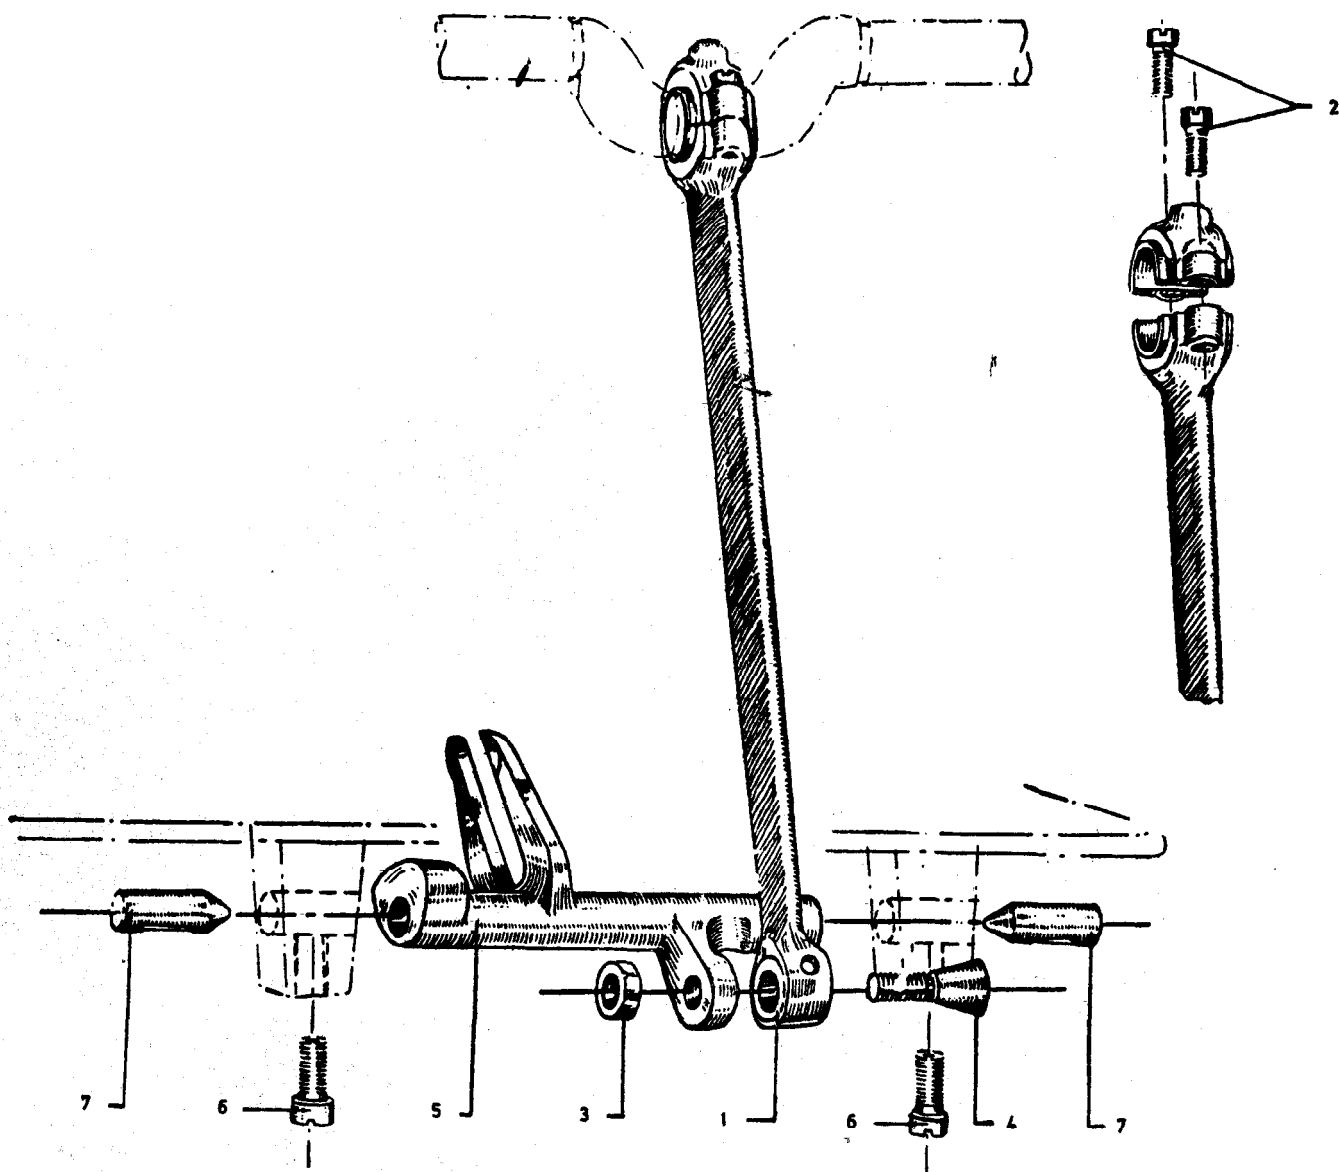

FIG. 4 CONNECTING ROD AND OSCILLATING ROCK SHAFT ASSEMBLY
**2.4 Connecting Rod and Oscillating Rock Shaft Assembly — See Fig. 4 and 4A.**